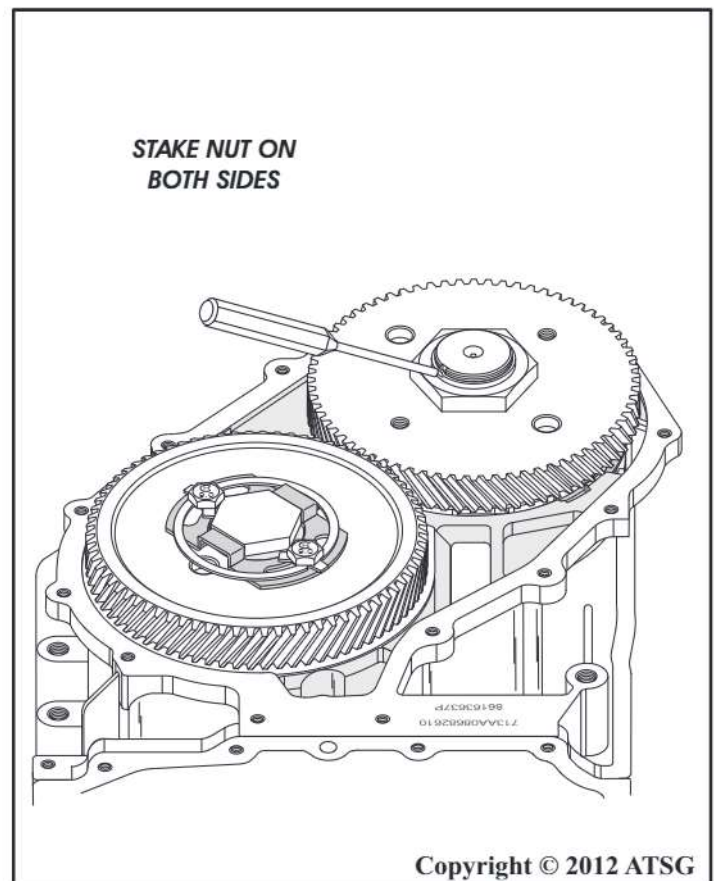

Figure 239
19. Stake nut in place on both sides, using a center punch, as shown in Figure 239.